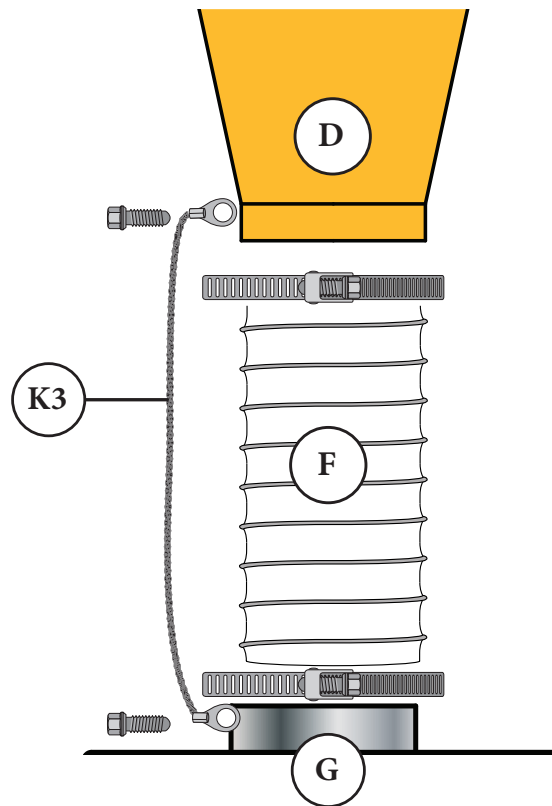

FIG. 16
Statically ground the Drum (H) by attaching the 14" Grounding Cable (K3); Drive the 3/8" Self-Tapping Screw through its eyelet and into the bottom of the Cone (D) just above the installed Flex Hose (F). Repeat using the second 3/8" Self-Tapping Screw on the Lid's Collared Inlet (G) [FIG. 16].